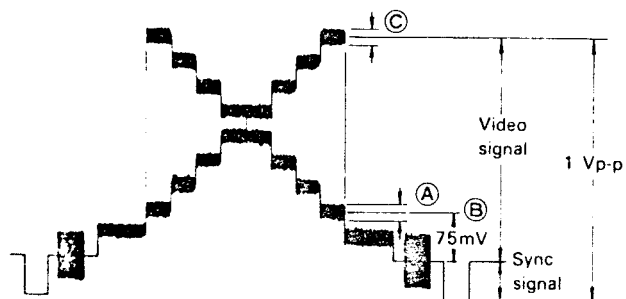

Fig. 35
- 4) Adjust VR104, VR106, VR108 to set ① (carrier leak) in Fig. 35 to minimum, and ② (set-up) to $75 \text{ mV} \pm 25 \text{ mV}$.
- 2) Connect an oscilloscope to the video output terminal (CN205 ⑥).
- 3) Adjust VR110, VR111 with VR109 fixed, to minimize ③ shown in Fig. 35.
- 4) When ① in Fig. 35 is more than 100 mVp-p with the sensitivity switch set to "STANDARD", adjust black/white balance and pulse canceller again.
- 3) Connect an oscilloscope to the video output terminal (CN205 ⑥).
- 4) Adjust VR102, VR103 to minimize ③ (carrier leakage) in Fig. 35.